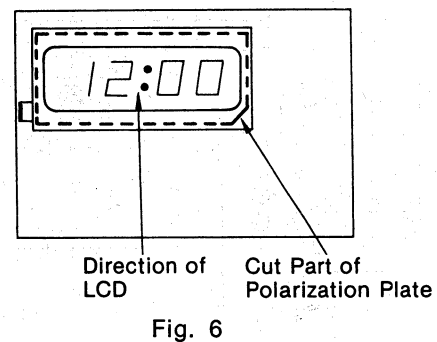

Fig. 6
- Note that polarization plate, LCD and reflection plate must be installed under the specified conditions as shown in Fig. 6 and 7.